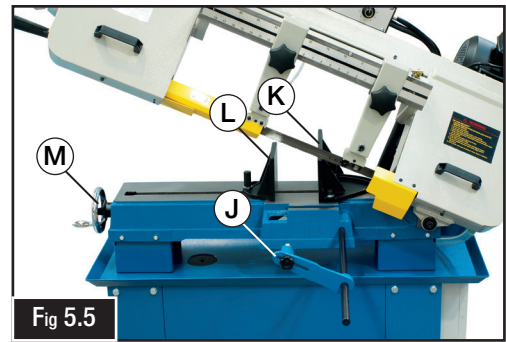

Fig 5.5
- J. **Work Stop:** Quickly positions workpiece during repetitive cutting operations. (Fig. 5.5)